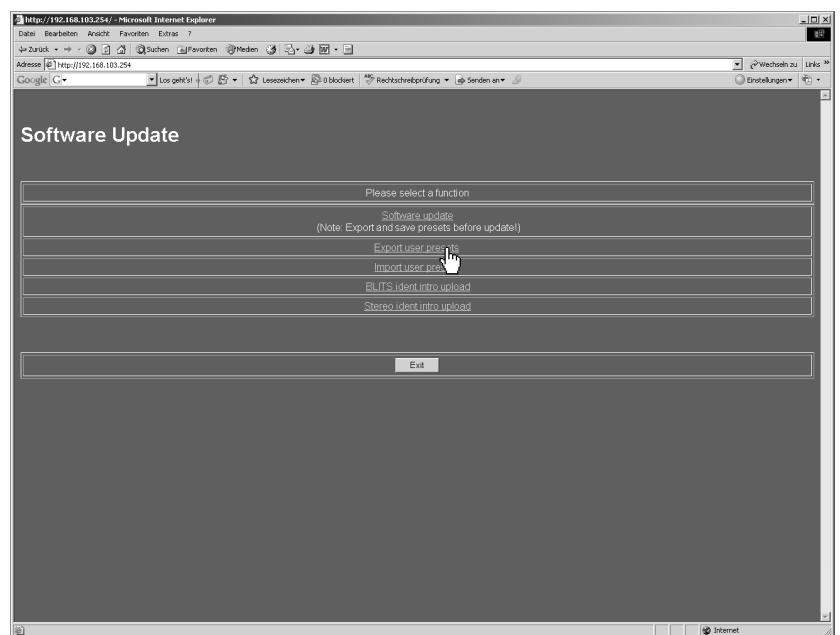
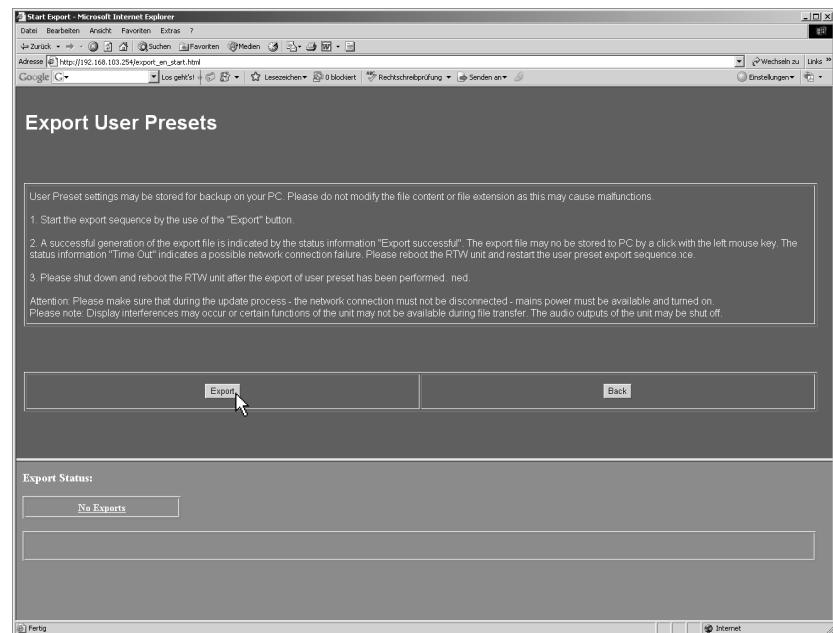
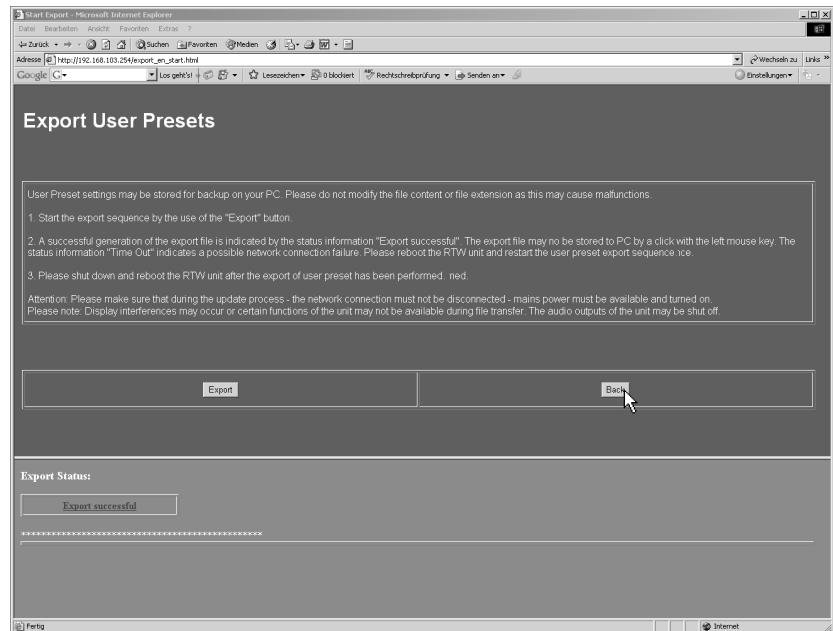

Fig. 8-12: Software Update Program menu in web browser
Fig. 8-13: Display of the Export menu page
Fig. 8-18: End of the export progress
2. The SurroundControl units should respond with a screen like the one shown in Fig. 8-12. Choose Export user presets. **Please note the instructions on the Export menu page** (see Fig. 8-13).
3. Please click the Export button (see Fig. 8-13).
8. When saving the file was successful please click the **Back** button (see Fig. 8-18) to get back to the home page (see Fig. 8-12).
10. If you want to leave the update program please click the **Exit** button (see Fig. 8-12). The SurroundControl units have to be restarted. Please wait approx. 5 s after shut down of the unit before you power it up again.